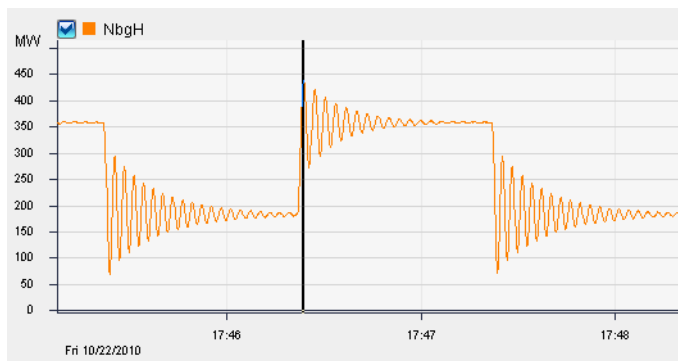

Figure 3-21 Diagram with Calculated Curve
- The periodic connection of a high load causes power oscillations that are well damped, see Figure 3-21.